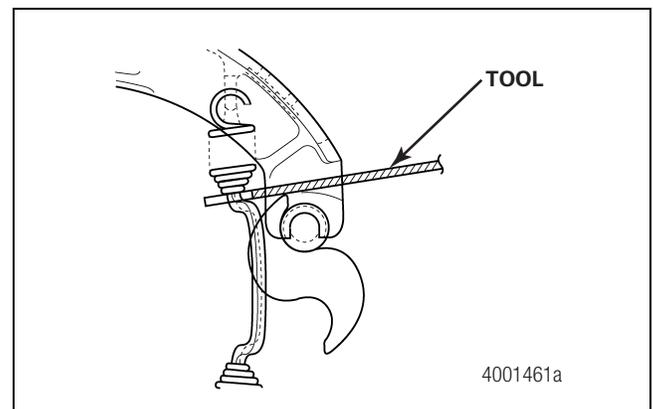

Figure 4.1
1. Use an appropriate tool to remove the brake shoe return spring. Insert the tool through the opening in the shoe. Figure 4.1.